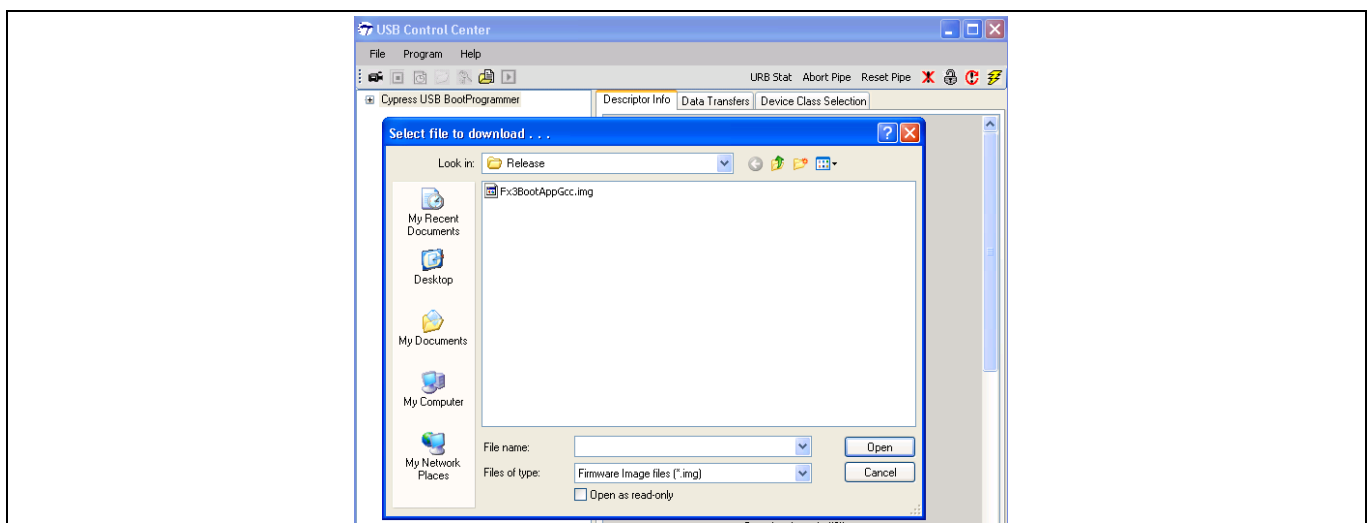

Figure 25 Select firmware image to download
5. After the FX3™ DVK board enumerates as “Cypress USB BootProgrammer,” the Control Center application prompts you to select the firmware binary to download. Browse to the .img file that is to be programmed into the I²C EEPROM, as shown in Figure 25.